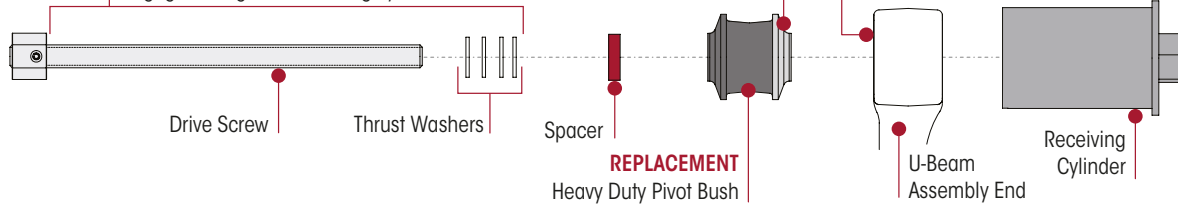
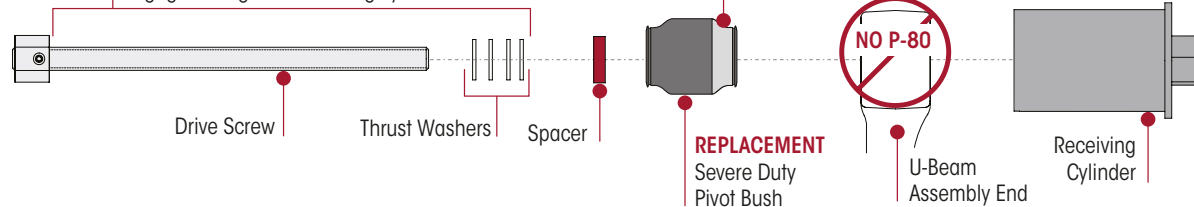

Figure 90: Heavy-duty Pivot Bush Tool Assembly
Figure 91: Severe-duty Pivot Bush Assembly
- **Heavy-duty Pivot Bush** – Apply P-80 to the face of the lead-in flange, to the outer diameter of the replacement pivot bush and to the inner diameter of the U-beam assembly end opening. Refer Figure 90.
- **Severe-duty Pivot Bush** – Apply P-80 to the face of the lead-in flange and to the outer diameter of the severe-duty pivot bush. Do not apply to U-beam end opening. Refer Figure 91.
3. Assemble replacement bush and tool onto U-beam and apply P-80 lubricant as shown in Figure 90 and Figure 91.